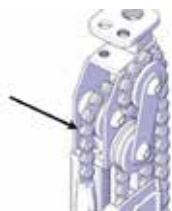

FIGURE 75: JACK CHAINS
- Inspect the chains for signs of deterioration. If this is the case, call Pioneer Family Pools, see Fig. 75